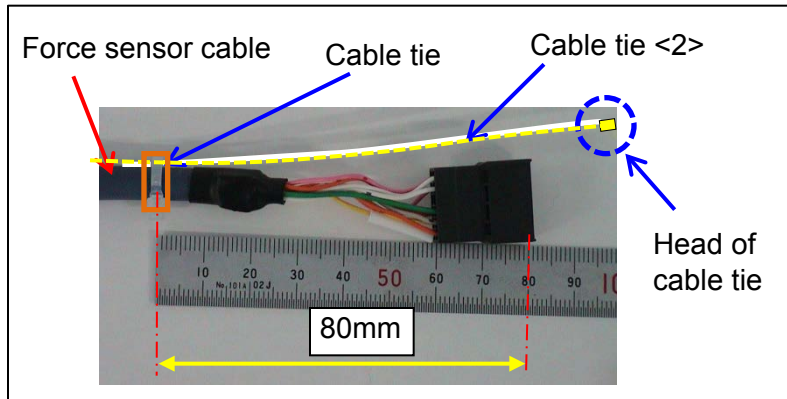

Fig. 2: Details of the bundling on the force sensor side sensor cable
- (2) Bundle the force sensor cable and one cable tie (cable tie <2>) together using one cable tie at one position as shown in Fig. 2.